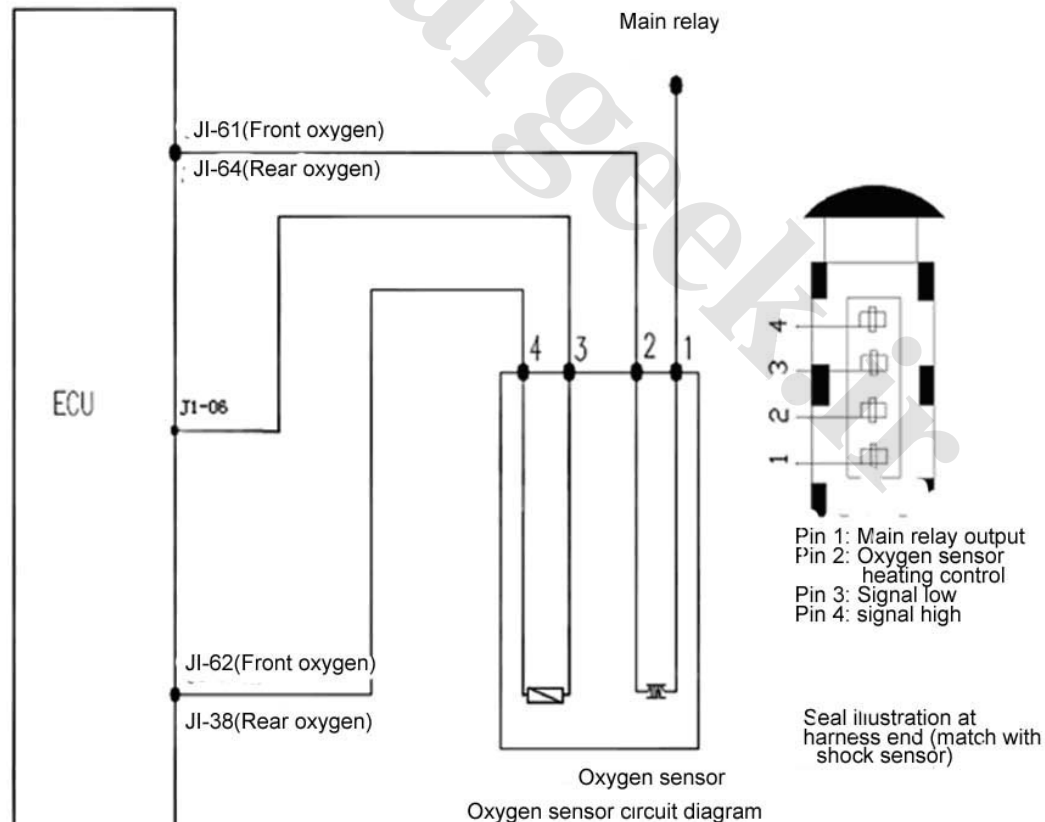

Fig. 1-9
**(1) Function:** To provide the information that whether oxygen in the cylinder is too high after the fuel is burned with the air in the cylinder. With this information, the ECU can carry out closed loop control for the fuel ration. Therefore, the three main toxic elements (HC, CO, and NOX) of the engine exhaust can be best converted and purified in the three-way catalytic converter.
**(2) Structure and principle:** The sense element of the oxygen sensor is a ceramic pipe with holes and gaps. The pipe is surrounded by engine exhaust and the air flows within the pipe. The ceramic pipe wall is a kind of solid electrolyte with electric heating tube inside, which begins work when the ceramic pipe has been heated to 300°C (a feature of a solid electrolyte). With such a special material, the oxygen ions can freely go through the ceramic pipe. Then, the concentration difference of the mixture will be converted into potential difference, which will be put out in the form of electric signal. If the concentration of the mixture is relatively high, the concentration difference of the oxygen ions inside and outside the ceramic pipe will be relatively high, and the potential difference will be relatively high as well. At the same time, a lot of oxygen ions will move to the outside from the inside, and the voltage output will be relatively high. If the concentration of the mixture is relatively low, the concentration difference of the oxygen ions inside and outside the ceramic pipe will be relatively low, and the potential difference will be relatively low as well. At the same time, little oxygen ions will move to the outside from the inside, and the voltage output will be relatively low. The working voltage of the oxygen sensor fluctuates from 0.1V to 0.9V, which will be changed for 5-8 times within 10 seconds. In case of lower than the changing frequency, the oxygen sensor shall be renewed, as it can not be repaired.
**(3) Connection of wiring diagram:** See oxygen sensor circuit diagram (Fig. 1-9)